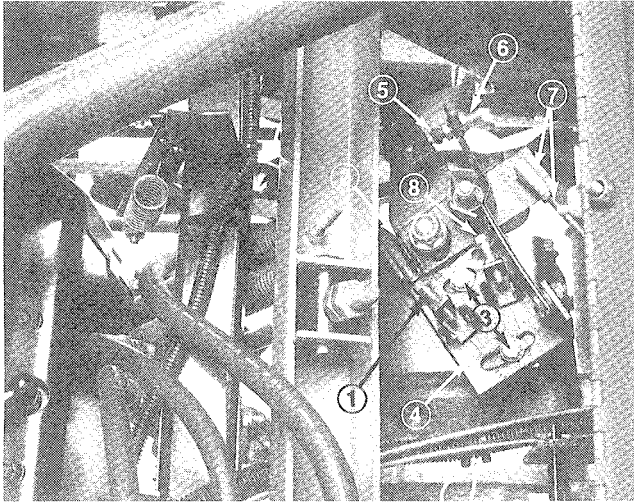

Figure 24
3. Loosen two capscrews securing traction plate so plate is free to move (Fig. 24).
4. Start engine and rotate traction plate (Fig. 24) in either direction until wheel ceases rotation.
5. Stop engine and tighten capscrews to secure traction plate (Fig. 24).
8. Adjust traction cable or ball joints (Fig. 24) as required to attain a 4.00" ± .25" dimension from tip of traction pedal to footrest, when pedal is in neutral position.
9. Loosen jam nut on rear stop screw and thread screw into bracket (Fig. 24).
10. Depress front of traction pedal, rotating traction lever (Fig. 24) counterclockwise, until lever stops. While holding pedal down, back out stop screw until it contacts traction lever, then back out screw two additional turns. Tighten jam nut.
11. Loosen jam nut on front stop screw and thread screw into bracket (Fig. 24).
12. Depress rear of traction pedal, rotating traction lever (Fig. 24) clockwise, until lever stops. While holding pedal down, back out stop screw until it contacts traction lever, then back it out two additional turns. Tighten jam nut.